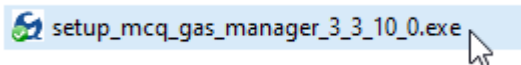

Figure 8
- Gas Blender Outlet** – Another One Touch valve must be positioned at a distance of 50 cm from the Gas Blender outlet to secure a proper working of the instrument. Take the 50 cm long tube and connect one end with the valve, then connect the other end to your system, as shown in the pictures below (Fig. 8).